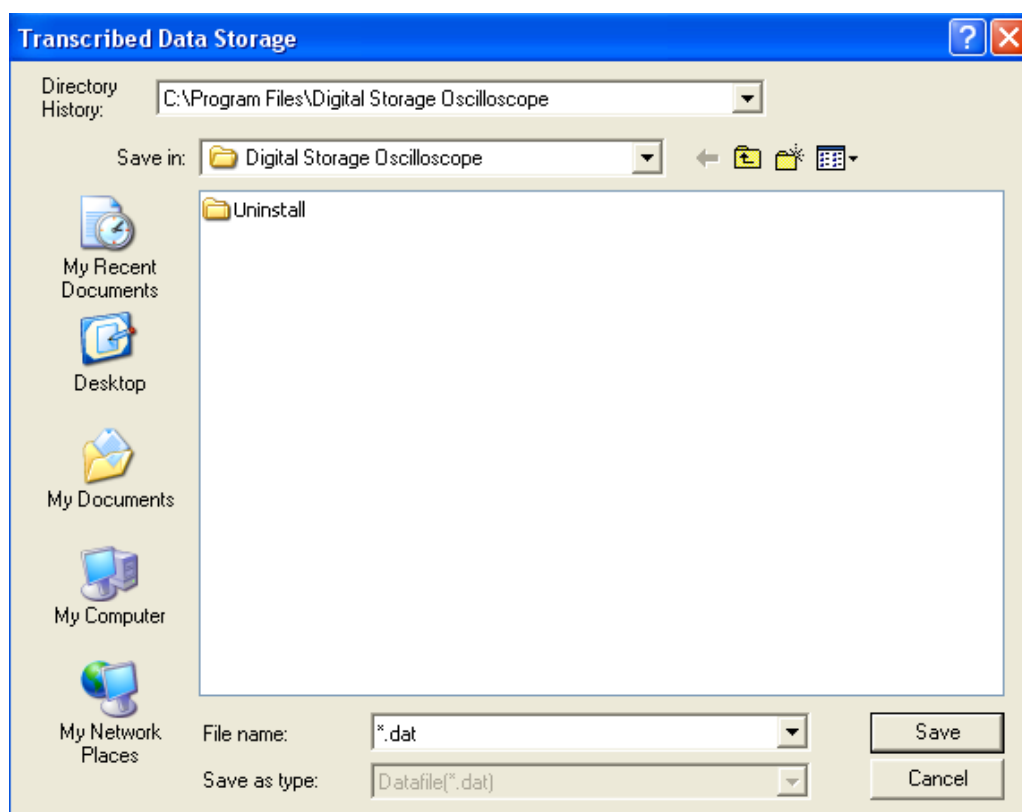
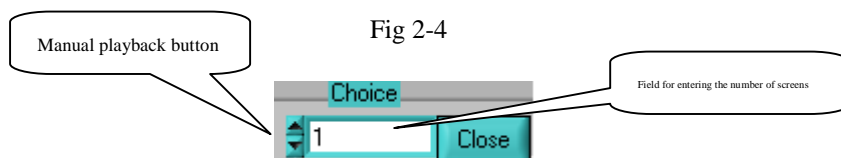

Fig 2-4
Fig 2-5
**playback :** Select “Document” → “Playback” → “Dynamic playback”. The waveform playback loading interface in Fig 2-4 will pop up. Specify the search area to locate the storage path of the recorded waveform, select the recorded waveform document you require, then click the [Load] button. The recorded waveform will be played continuously on the virtual display with the current playback progress.
**playback :** Select “Document” → “Playback” → “Static playback”. The waveform playback loading interface in Fig 2-4 will pop up. Specify the search area to locate the storage path of the recorded waveform, select the recorded waveform document you require, then click the [Load] button. Fig 2-5 will now appear. By using the “manual playback” button, you can play back the recorded waveform screen by screen. Alternatively, enter the required screen number in the screen number display field and press “ENTER”. Your specified screen will be displayed. To close the static playback function, click the “close static playback” button.